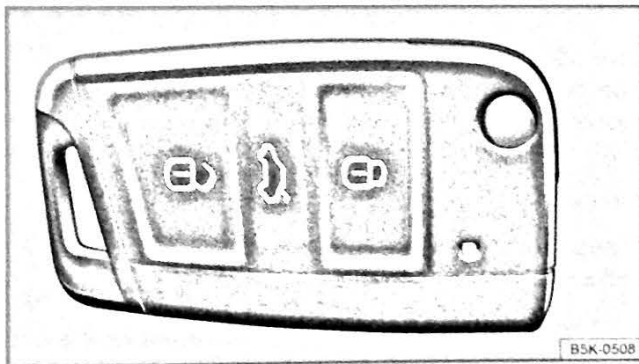
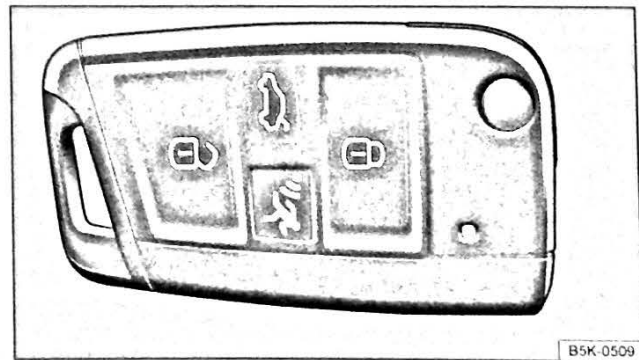
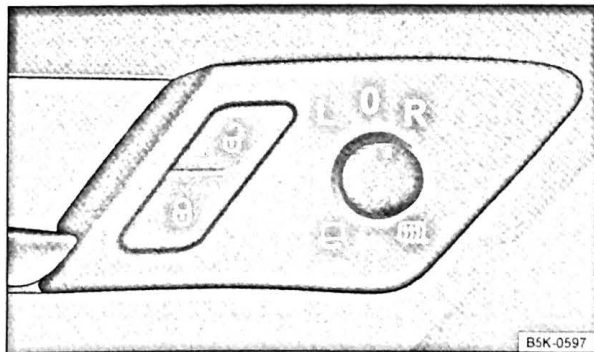

Fig. 27 Buttons on the vehicle key
Fig. 28 Vehicle key with alarm button ▶
Fig. 29 In the driver door: central locking button
The vehicle may lock itself automatically at speeds of approximately 15 km/h (10 mph) and above ⇒ page 31. The indicator lamp  in the central locking button will light up yellow when the vehicle is locked ⇒ Fig. 29.
**i** If the buttons on the vehicle key ⇒ Fig. 27 or ⇒ Fig. 28 or one of the central locking buttons ⇒ Fig. 29 are pressed repeatedly within a short period of time, the central locking system will switch
Function	Buttons to be used on the vehicle key $\Rightarrow$ Fig. 27 or $\Rightarrow$ Fig. 28
Press the button  $\Rightarrow$  Fig. 29:
- The indicator lamp in the button  $\Rightarrow$  Fig. 29 lights up yellow when all doors and the tailgate are closed and locked.
- The  button is pressed ⇒ Fig. 29.